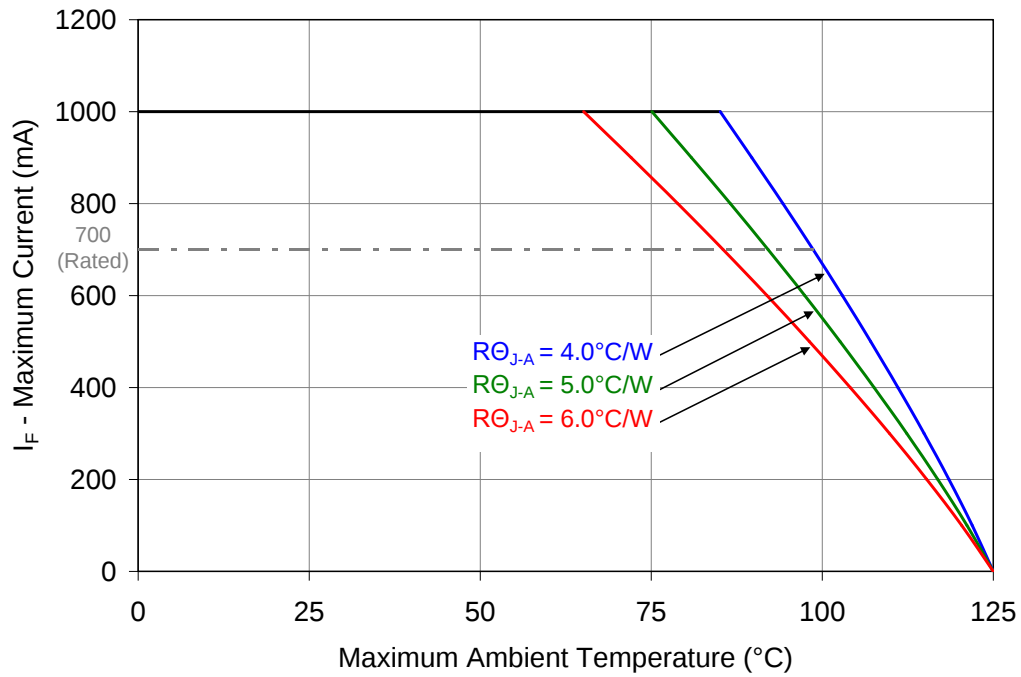

Figure 11: Maximum forward current vs. ambient temperature based on $T_{J(\text{MAX})} = 125^{\circ}\text{C}$.
- Maximum DC forward current (per die) is determined by the overall thermal resistance and ambient temperature. Follow the curves in Figure 11 for current derating.
Notes for Figure 11: